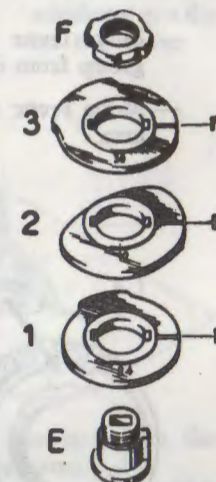

Fig. 62
- Choose first cam and slip it onto cam-holder bushing « E » (Fig. 62). The face of the cam on which the chosen number is stamped must be turned upwards.